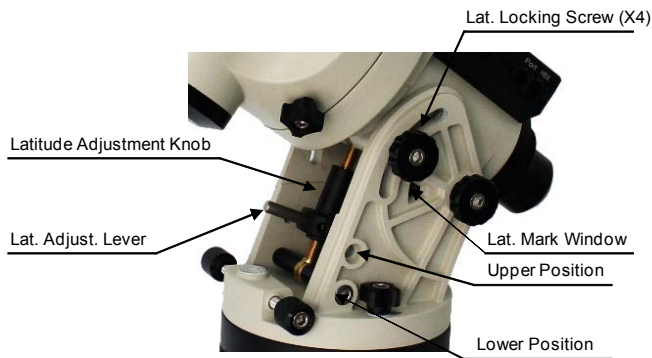

Figure 11
3. **Setting the Latitude:** Unlock the four R.A. Clutch Screws and rotate the mount 180° around the R.A. axis (**Figure 10**) to move the dovetail face upside. Tighten the R.A. Clutch Screws. Un-screw the Latitude Adjustment Lever from Latitude Adjustment Knob (**Figure 11**). Turn the Latitude Adjustment Knob to set your current latitude, which is displayed in Latitude Mark Window. Use the Lever for fine adjustments as needed. Always set the latitude without the load.
If your latitude is between 35° to 70°, set the Latitude Adjustment Knob to the upper position. The factory default position is set at 5° to 40°. A Latitude Safety Block has to be installed for low latitude setting (**Figure 11**)